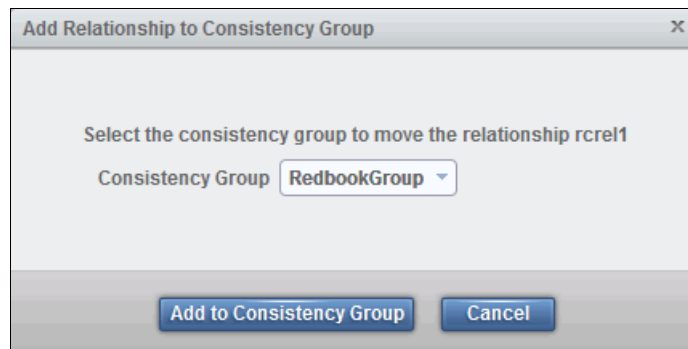

Figure 10-134 Choose the consistency group to add the remote copies
2. You must choose the consistency group to which to add the Remote Copy relationships, select the appropriate consistency group and click **Add to Consistency Group**, as shown in Figure 10-134.